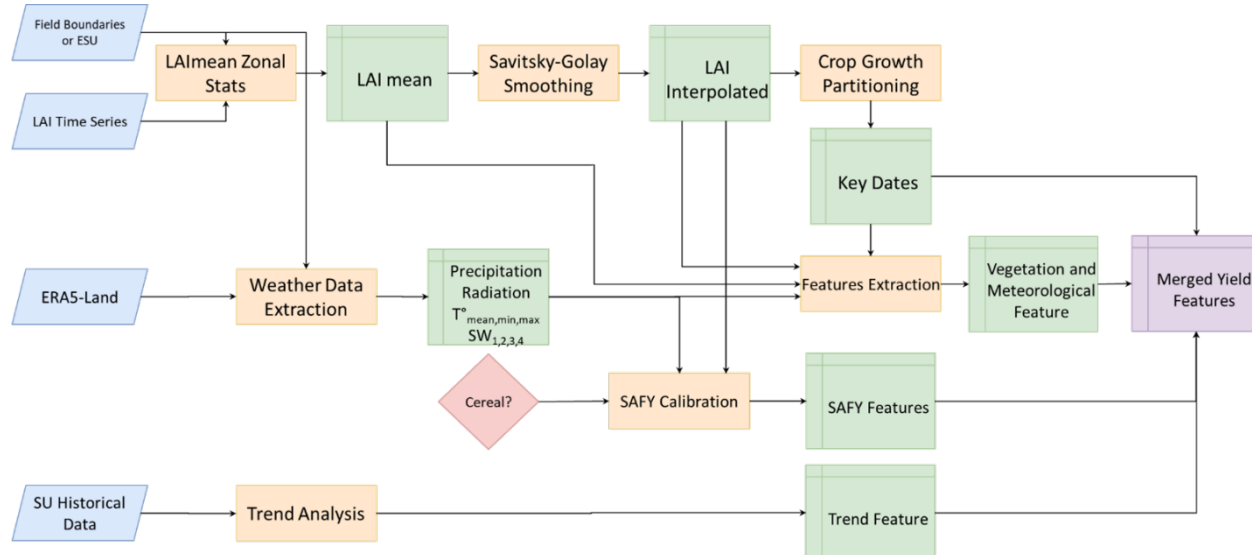

Figure 2-7. Workflow of the crop growth condition metrics extraction
The main EO input is the LAI time series, which directly or indirectly influences most yield-related features. Climate variables extracted from the ERA5-Land database are also incorporated. When in-situ yield data are available, they need to be uploaded with the associated field boundaries. Otherwise, the processor relies on a statistical unit (SU) shapefile, the corresponding historical yield data, and a crop type map (produced by the crop type processor). The different steps of the crop condition metrics processor are summarized in Figure 2-7.